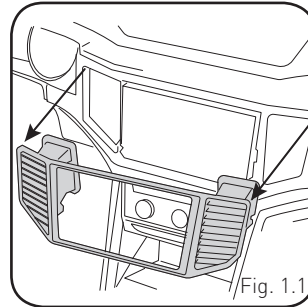

Fig. 1.1
- Using a panel tool, carefully pry outward around the radio trim panel to release the clips securing it in place. (Fig. 1.1)